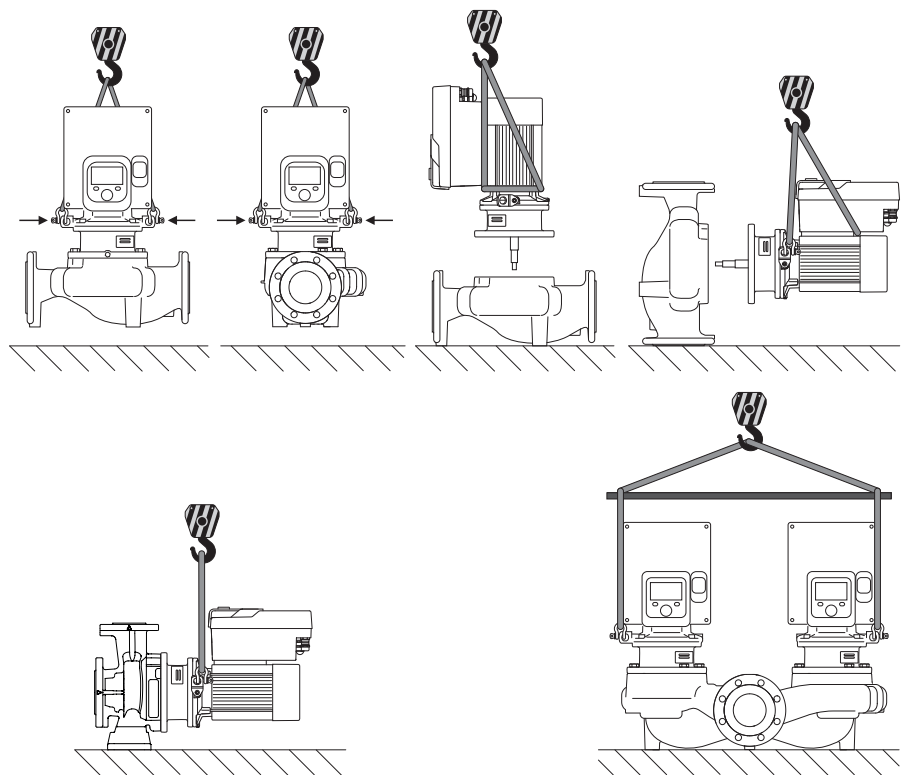

Fig. 6: Lifting direction
The pump must be transported using approved lifting accessory (hoist, block and tackle, etc.). The lifting accessory must be attached to the transport lugs at the motor flange. Slide the lifting loops under the adapter plate, if necessary (Fig. 6).
2. Attach motor impeller unit (Fig. 4) to the transport lugs with suitable lifting equipment for protection. To prevent the unit from tipping, place a belt loop around the motor and adapter of the electronic module as shown in Fig. 6. When attaching, avoid damaging the electronic module.